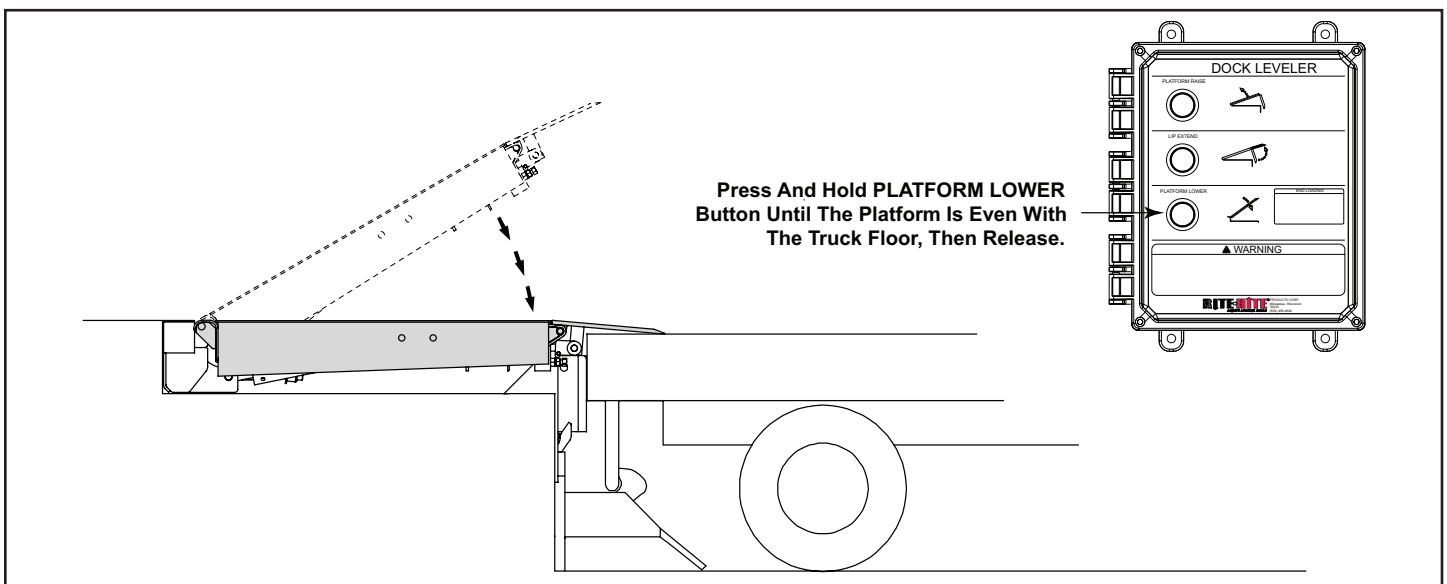

FIGURE 9 - LOWERING THE LEVELER TO WORKING POSITION, LIP RESTING ON TRUCK FLOOR
3. Press and hold the PLATFORM LOWER button until the lip rests on the truck floor. See Figure 9.